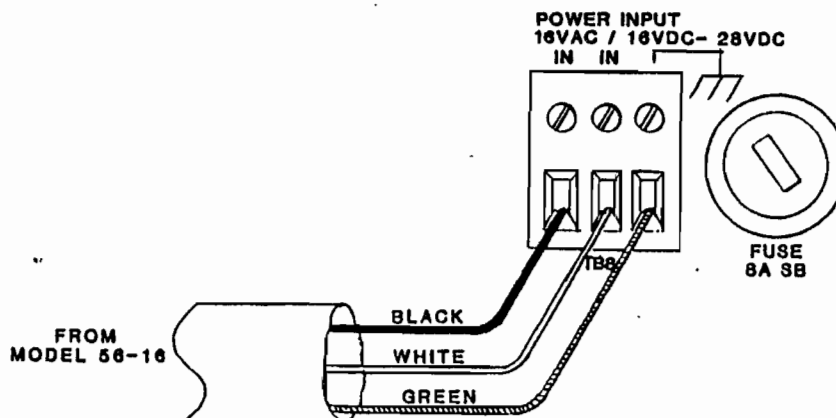

FIGURE 2-1
ELECTRICAL INSTALLATION/POWER The 802 receives electrical power from either (1) the Model 56-16 ac power supply (supplies 16 vac at 3 amps) or (2) a user supplied system power supply. The power requirement for the Model 802 is 16-20 volts ac rms/3 amperes or 16-28 volts dc 2 amperes. Input power (mains power) to the Model 56-16 is switch selected to either 120 vac $\pm 10\%$ or 230 vac $\pm 10\%$, 50/60 Hz $\pm 10\%$. Connect power to the Model 802 as shown in Figure 2-1.